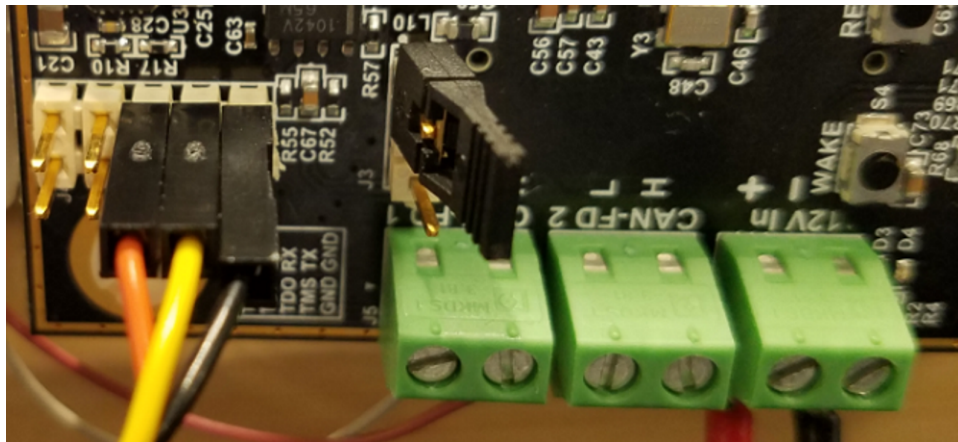

図 11. FTDI Cable Connection and J3 Setting
- Move or install the jumper on J3, as Figure 11 shows. This action puts the AWR16 device into "flash" mode. Connect the black (GND), yellow (RX), and orange (TX) wires of the FTDI cable to J4.
As the previous 図 11 shows, the J3 jumper is used to configure the device into FLASH programming mode. Two additional resistor dividers are used to configure the AWR1642 device at start-up. These SOP configuration options are shown at the bottom of sheet 2 of the schematic (available for download in Schematics). These lines are sensed only during boot up of the AWR device. 表 3 provides a description of the SOP modes. A "0" represents pulling the pin low and a "1" represents pulling the pin high.